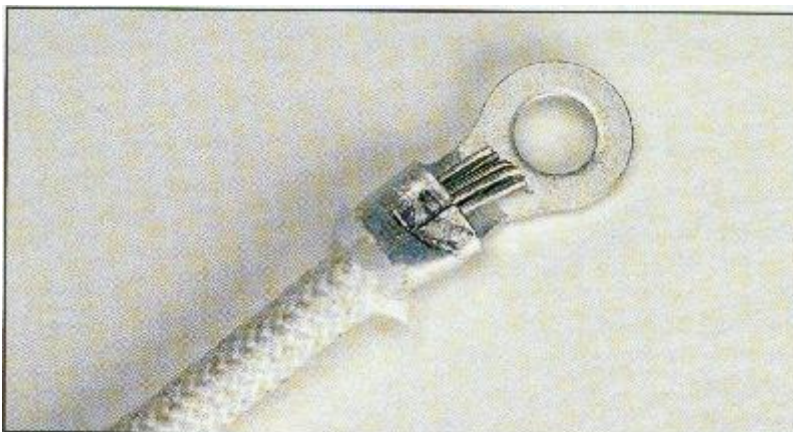

FIGURE 7
and a bad crimp. A good crimp will produce a positive detent in the ferrule of the lug (see Figure 7). A good crimp will physically hold the lug on the wire beyond the breaking strength of either the lug or the wire. Test the crimp by pulling on the lug. If the crimp isn't enough and the lug pulls off, throw it away and use a new one. Lean on the crimp tool; unless you have a \$100 reflex jawed production tool, you cannot break the lug. Lugs are made to be crushed into and deformed at the point of detent into the wire.
**The trick of securing a long lasting joint is to keep the adverse effects of the environment away from the area where the two conductors are joined. This can be done several ways but by far the most popular are crimping -OR- soldering. Either technique properly utilized will do the job. It is not necessary to do both. It's interesting to note that the terminal in Figure 7 is installed on 7-strand wire insulated with a braided overjacket. NOT aircraft wire.**